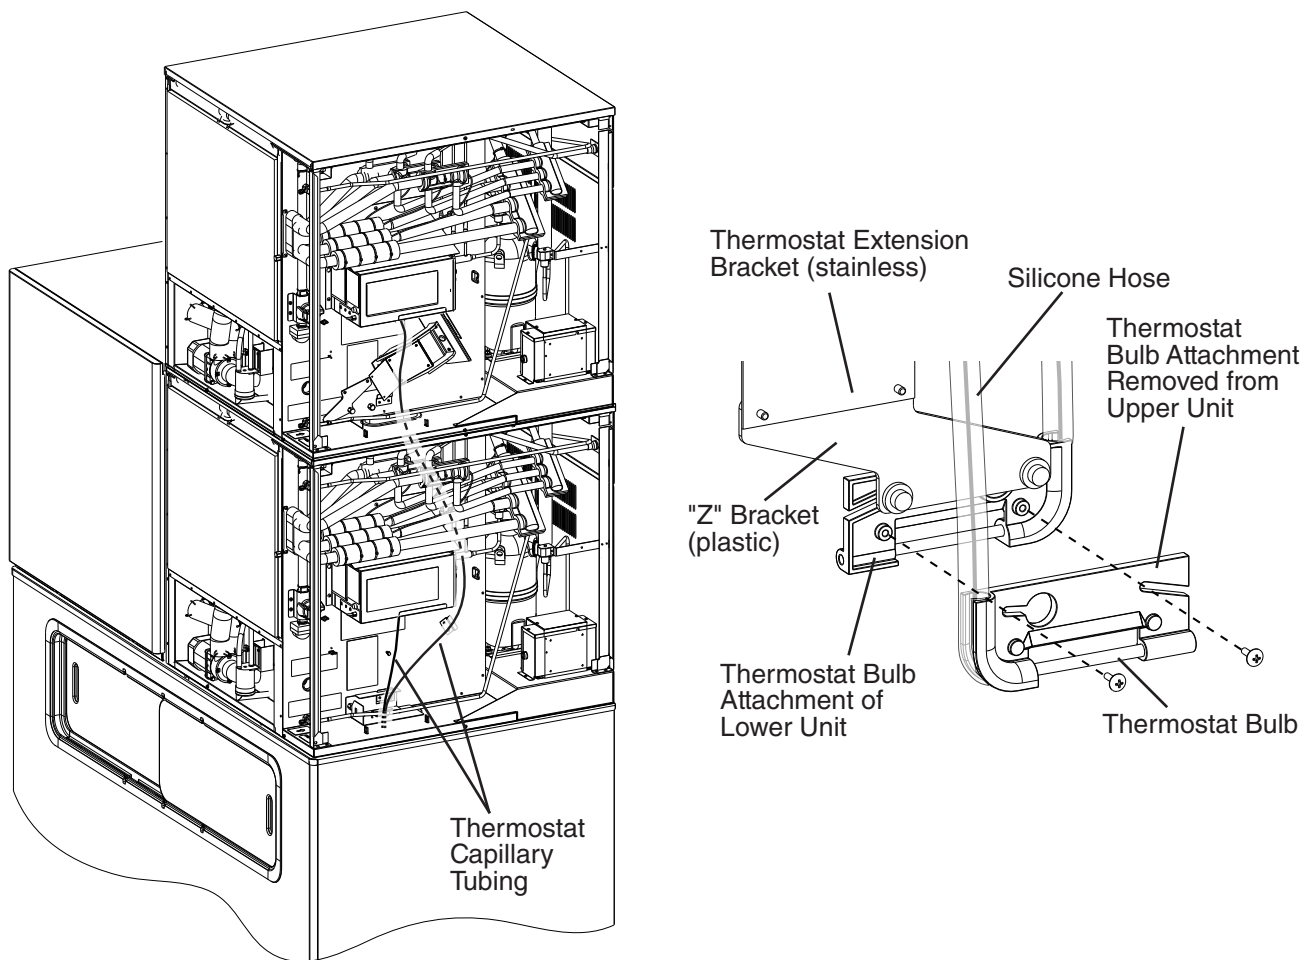

Fig. 6
- Remove the thermostat bulb attachment (plastic) of the upper unit from the thermostat extension bracket (stainless). See Fig. 6.